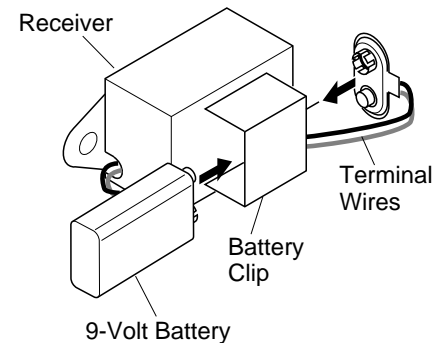

Figure 37 - Installing Battery in Receiver
3. Install battery into receiver battery clip and connect to terminals (see Figure 37).